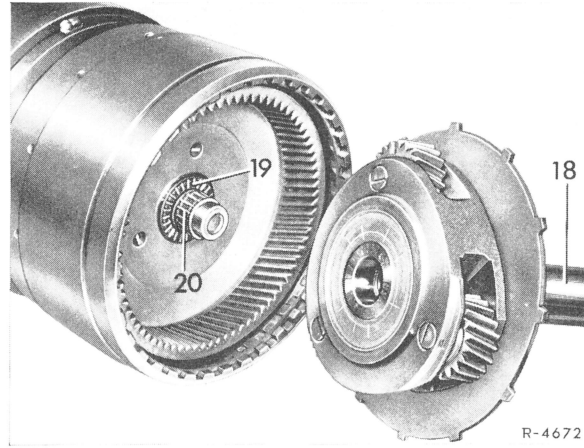

Fig. 31
47 Take gear assembly from assembly stand, insert radial bearing (20) and axial bearing (19) with grease (Fig. 31).